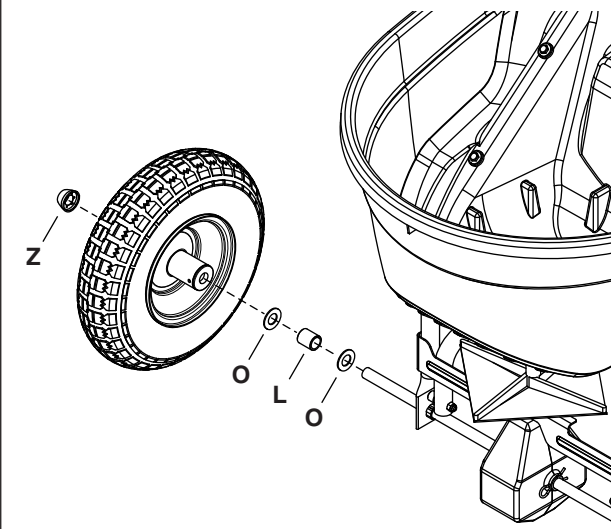

Figure 14
STEP 15: (SEE FIGURE 14)
- Slide a 5/8" washer (O), a spacer (L), a 5/8" washer (O) and a wheel onto the end of the axle with no hole.
- Carefully hammer a hub cap (Z) onto the axle.